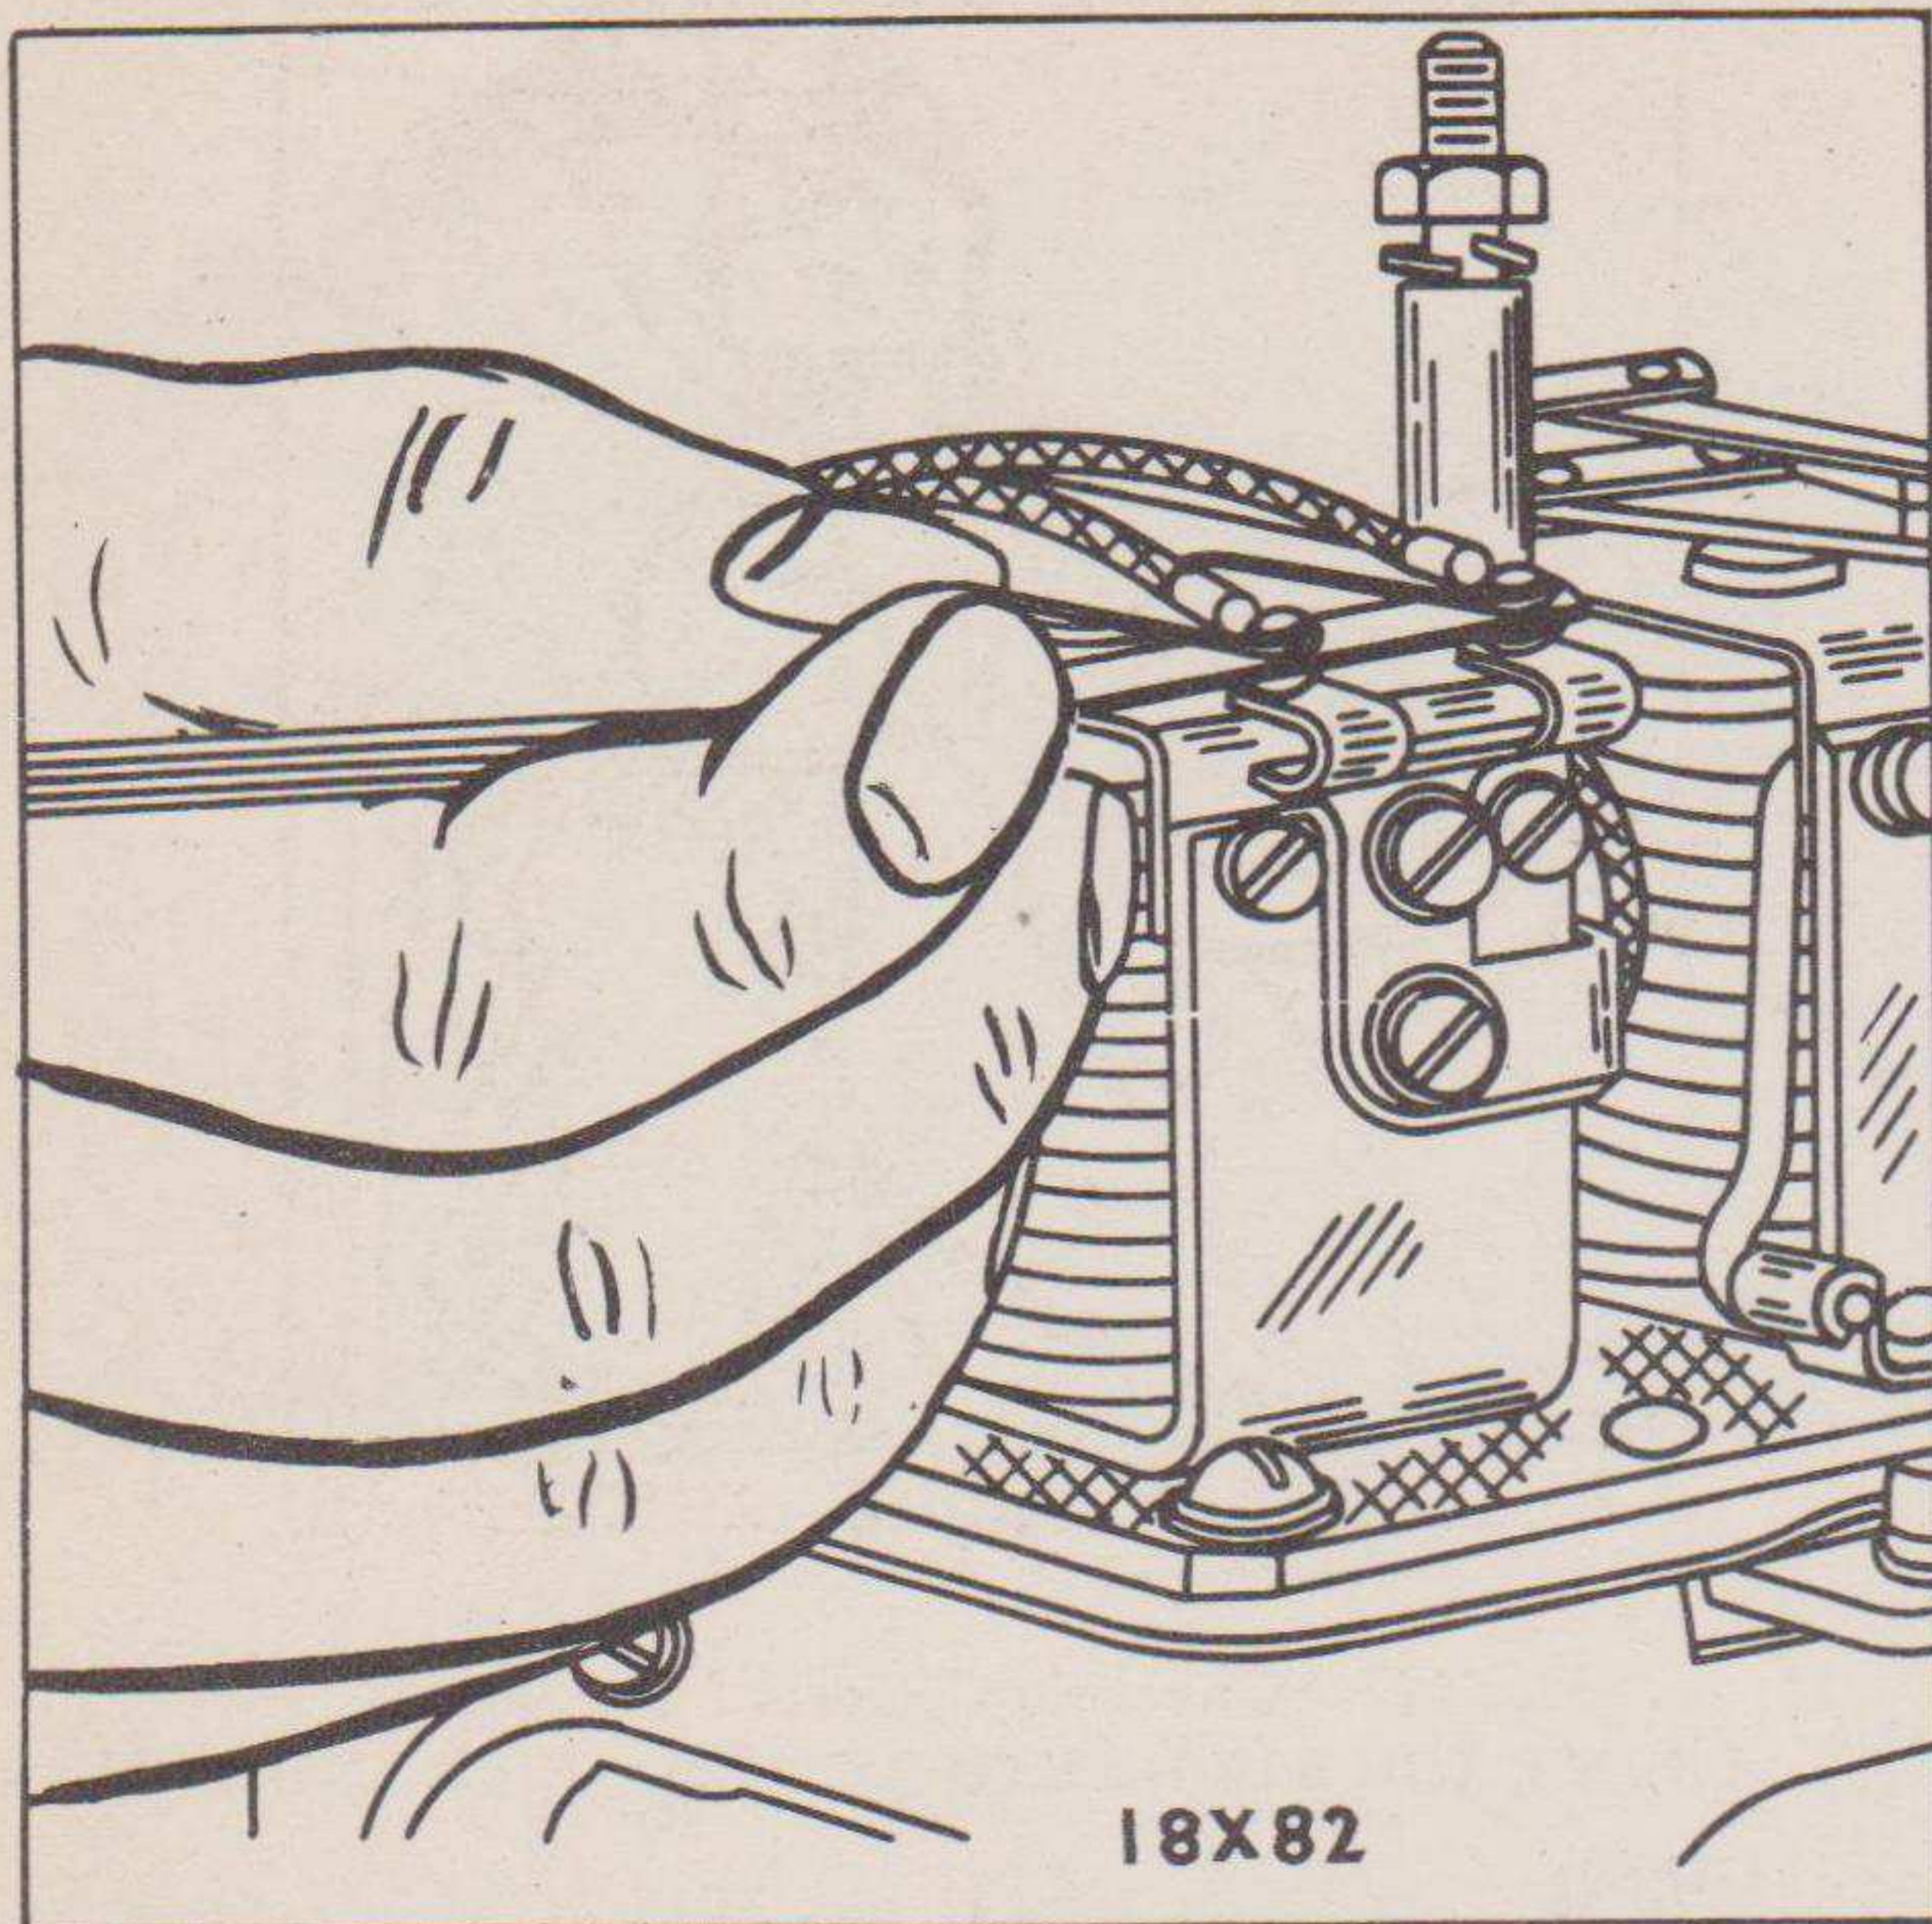

Fig. 122—Checking Gap of Circuit Breaker Contact Points
- (c) Check gap of the contact points. (See Fig. 122). This gap should be .015" minimum, but will possibly be more than this in actual adjustment.